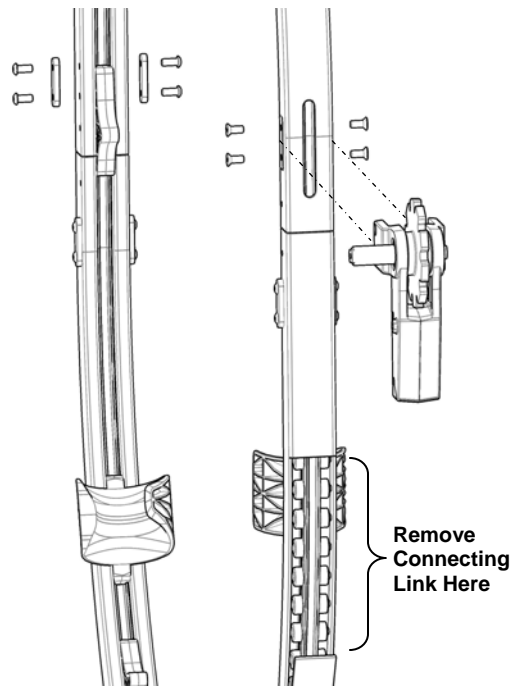

Figure 2-4, Track Disassembly
- c) Remove the hardware on the upper track that attaches the two halves of the track together and push the two halves together (Figure 2-4). This will allow enough slack in the chain so that the Connecting Link can be pulled out of the opening below the sprocket location for link disassembly.